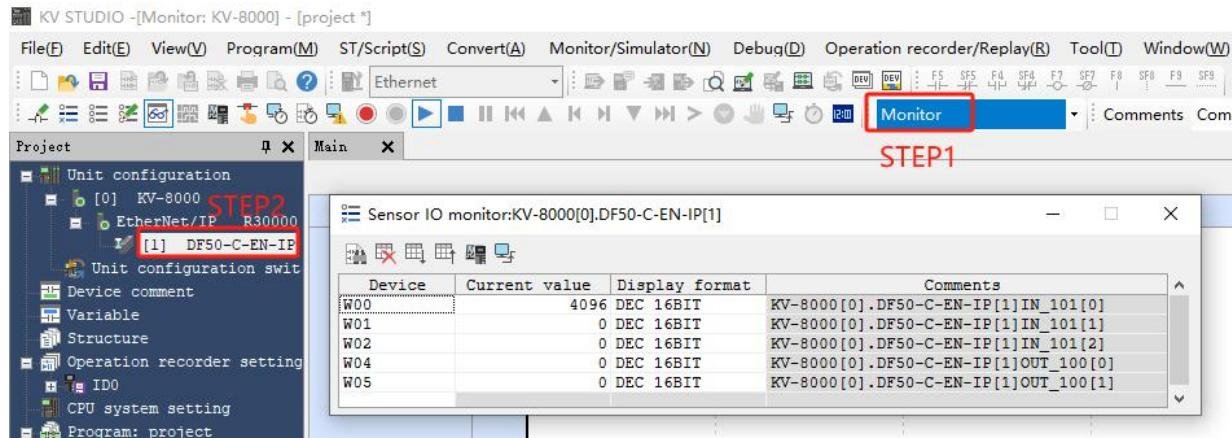

Figure 4-1-24
- Figure 4-1-24 , open the data monitoring table in monitor mode: